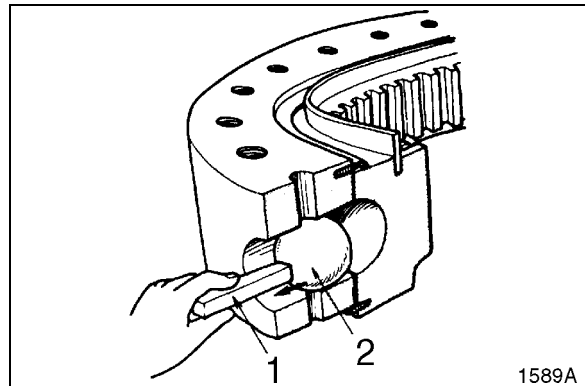

Figure 6
4. Turn inner ring and use magnet bar (1, Figure 6) to remove steel balls (2).